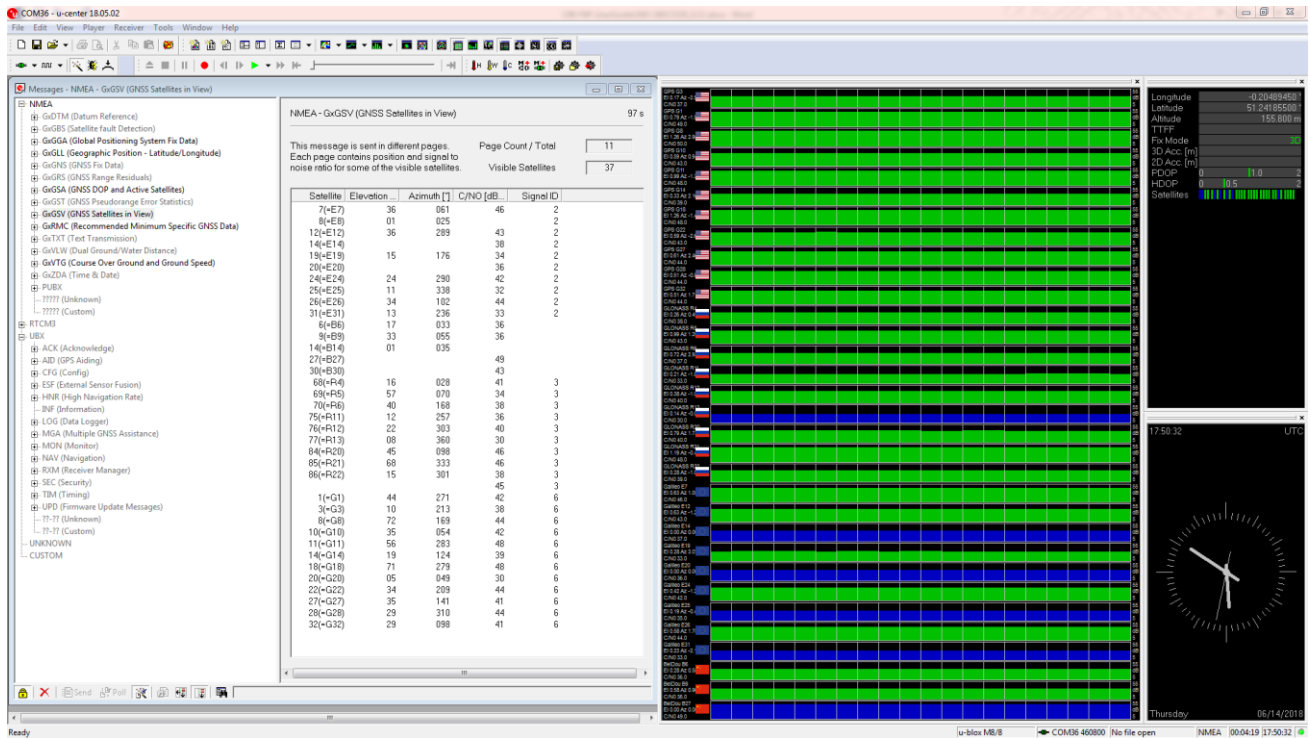

Figure 3: u-center showing a view of the ZED-F9P default operation
- The time pulse LED on the C099-F9P board blinks in blue once the ZED-F9P has obtained valid time information. Figure 3 below shows a typical u-center view with active satellite signal levels.